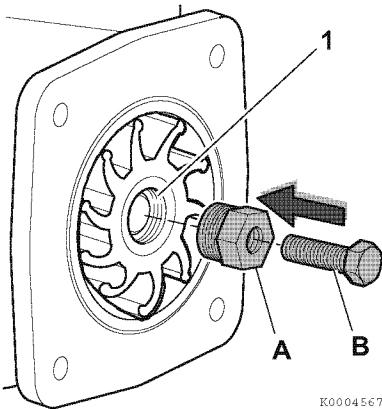
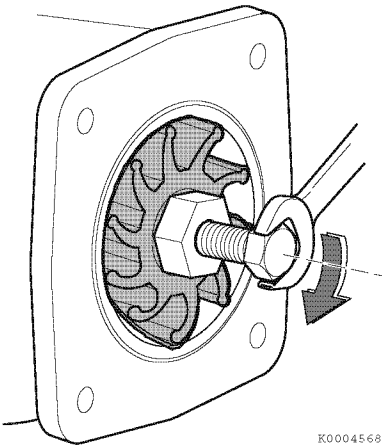

Figure 17
Figure 18
Note: When replacing a used impeller with a new one, the impeller must have an M18 x1.5 thread (**Figure 17, (1)**). Turn the M18 screw side of the impeller to the cover side and install (**Figure 18**).